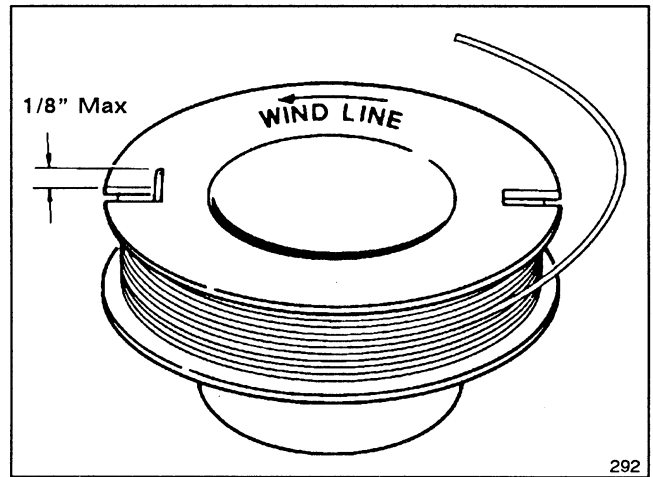

Figure 16
A. Hook one end of line into groove on spool, allowing no more than 1/8" to protrude. Wind line in direction of arrows on spool in level rows between spool flanges (Fig. 16).